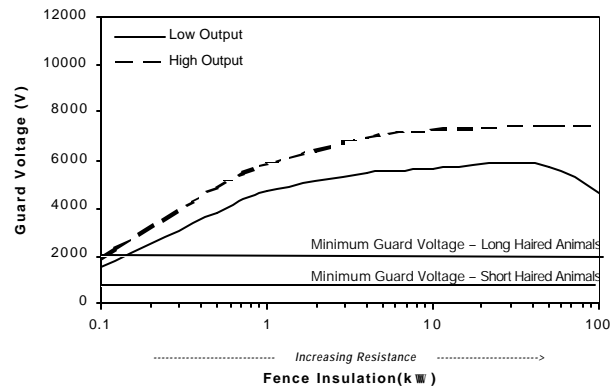

Figure 27. Guard Voltage for 3.3 mile (5.4 km) Fence.
**Shock Delivery:** Figures 27 and 28 show guard voltage outputs of the Red Snap'r LIB30 for 3.3 and 10 mile (5.4 and 16 km) lengths of single wire fence over a range of resistances. Table 14 provides the guard voltages at the "weeded" and "clean" fence conditions. Guard voltage values for other fence conditions are given in Appendix II. The higher the guard voltage the higher the shock delivered to the animal.
As can be seen from **Figures 27 and 28**, low resistance did not appreciably affect shock delivery, since the voltage output was above 2,000 V for nearly all fence conditions. The Red Snap'r LIB30 can be expected to deliver shock over a wide range of fence conditions.